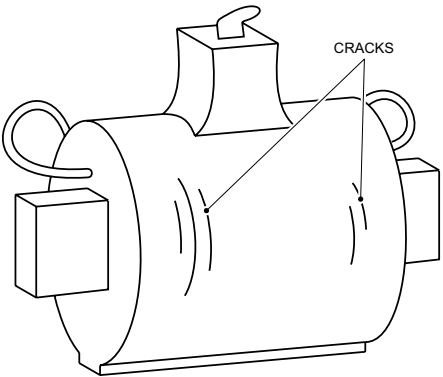

Figure 3.3.6
- A. Inspect coil for visible radial cracks. If any cracks are evident, replace the coil. (See Figure 3.3.6).